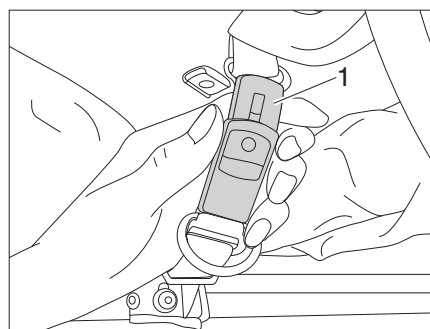

Fig. 17 Closing the securing belt
- Close the securing belts (Fig. 17,1).